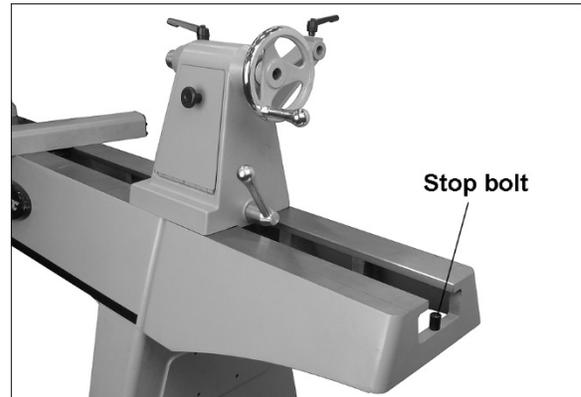

Figure 6-6: optional 20" bed extension
2. Have an assistant hold the bed extension flush to end of lathe bed, and insert four 3/8 x 1-3/4 socket head cap screws with lock washers and flat washers (provided with extension bed) through top holes and lower slots in bed extension into threaded holes on lathe. See Figure 6-6.
4. Slide tailstock over joint where beds meet, so that clamping nut is centered over joint (Figure 6-6). Lock tailstock clamping handle; this will align the beds.
- Unscrew stop bolt from lathe bed (Figure 6-6), and screw it into hole at end of bed extension.
To remove headstock, tailstock or tool support base from bed, unscrew and remove stop bolt at either end (see Figure 6-6). NOTE: After re-mounting these items on the lathe, always insert stop bolt.